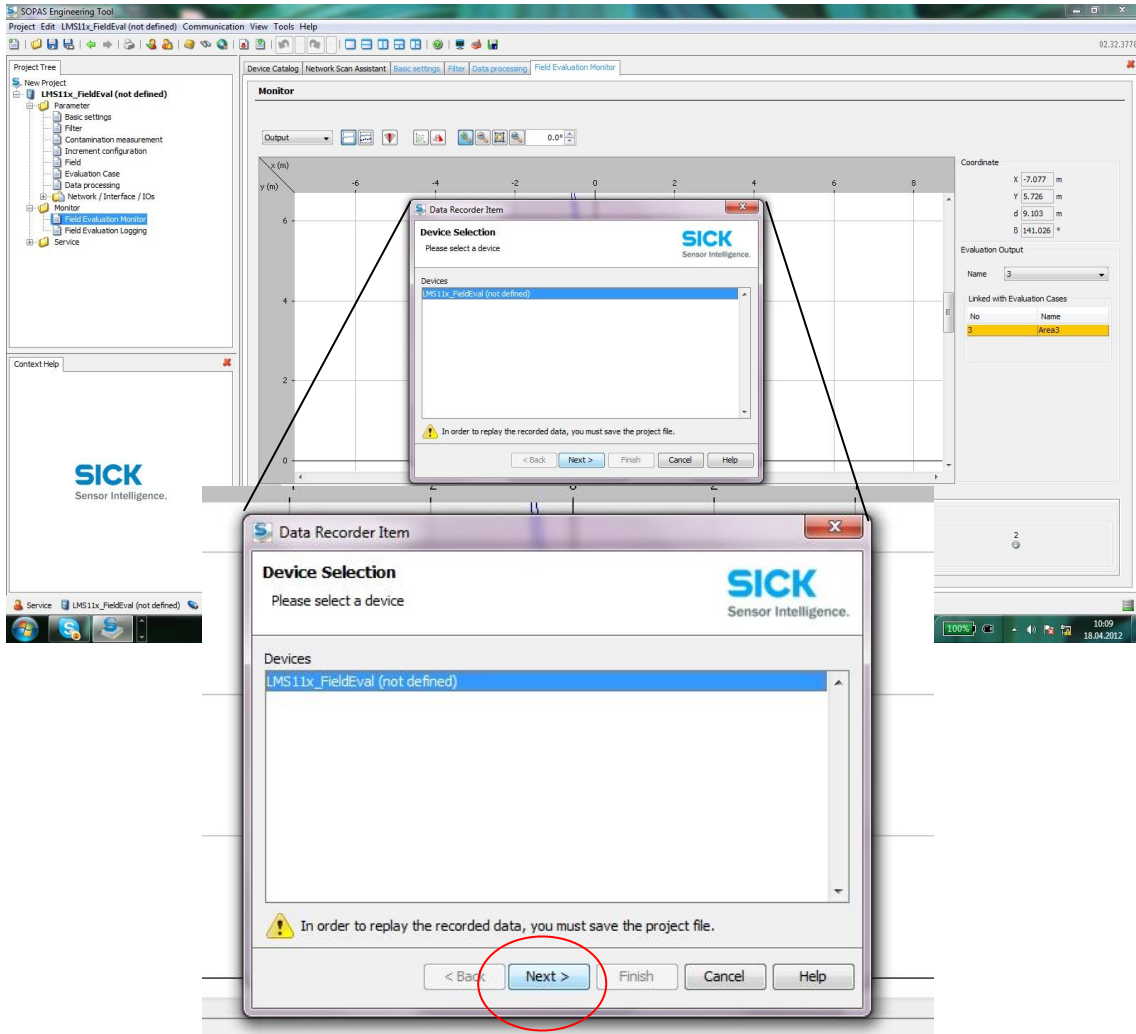

Fig. 14.
13. Now the device (LMS11x\_FieldEval) is selected but there are still some settings to be considered. Fig.14.